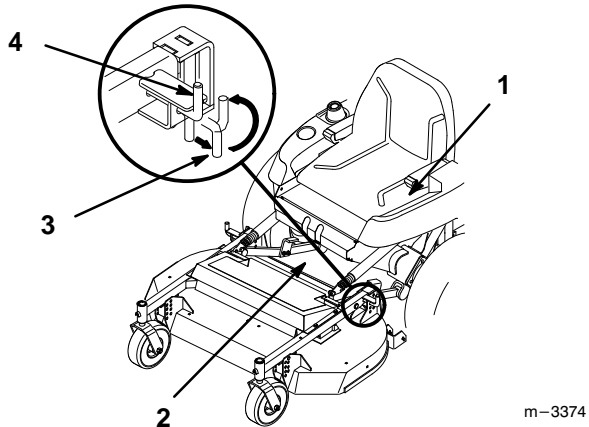

Figure 12
1. Turn engine off, set the parking brake and check that PTO cover is down against deck (Fig. 12).
2. Lift on the mower carrier frame to release weight on latch pin and pull out on latch pin to release (Fig. 12). Lower rear of mower onto anti-scalp rollers. Repeat on the other side.